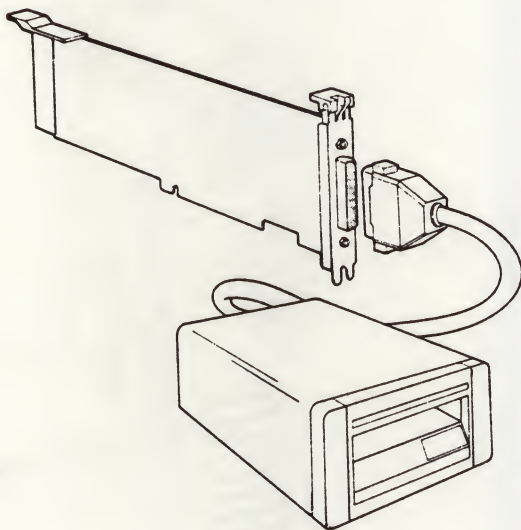

Figure 3-23 Cabling the Tape Drive and Controller Card
19. Connect the shielded round cable of the tape drive to the endplate of its controller card, as shown in Figure 3-23.